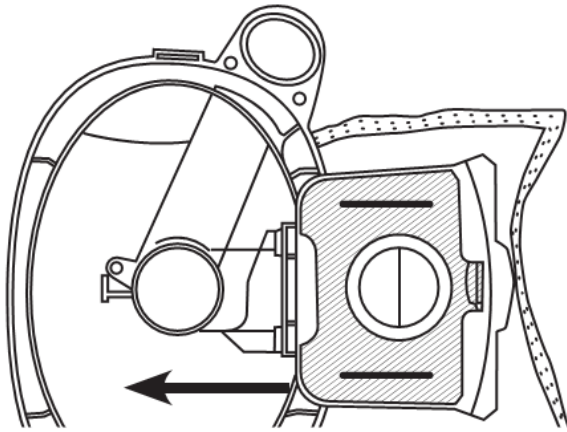

Fig 3
5. The cardboard face of the new bag should rest securely in the dust bag cover guide (Fig. 3).